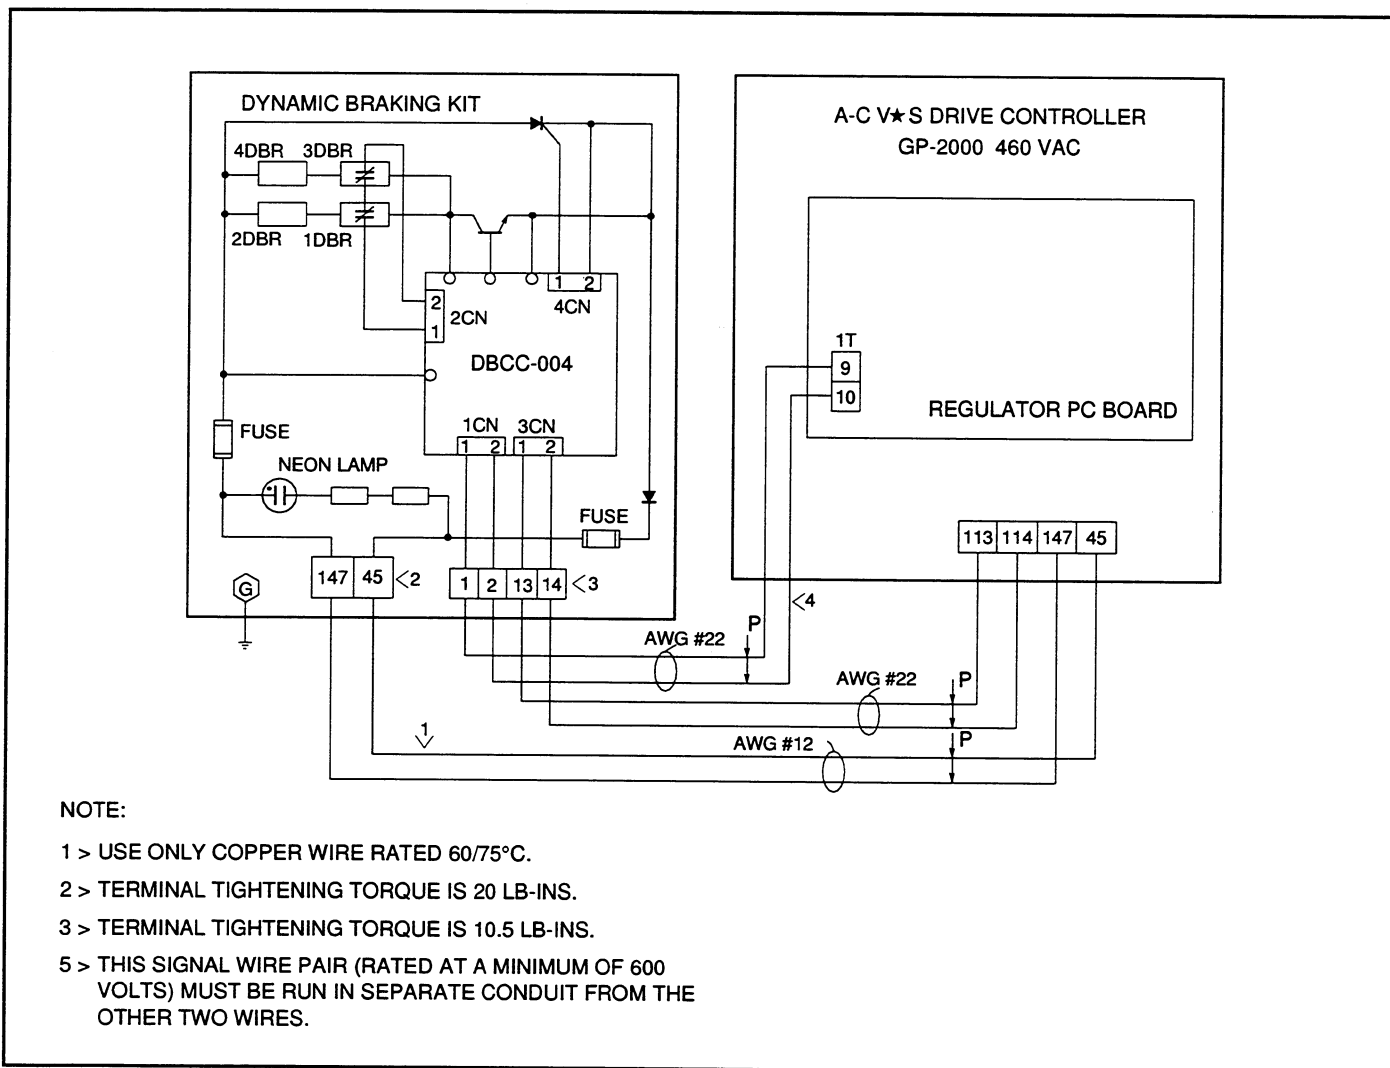

Figure 2. Connection Diagrams.
6. Wire between the controller and the Dynamic Braking Kit in accordance with Figure 2 and all codes. Use wire that is rated at a minimum of at least 600 volts.